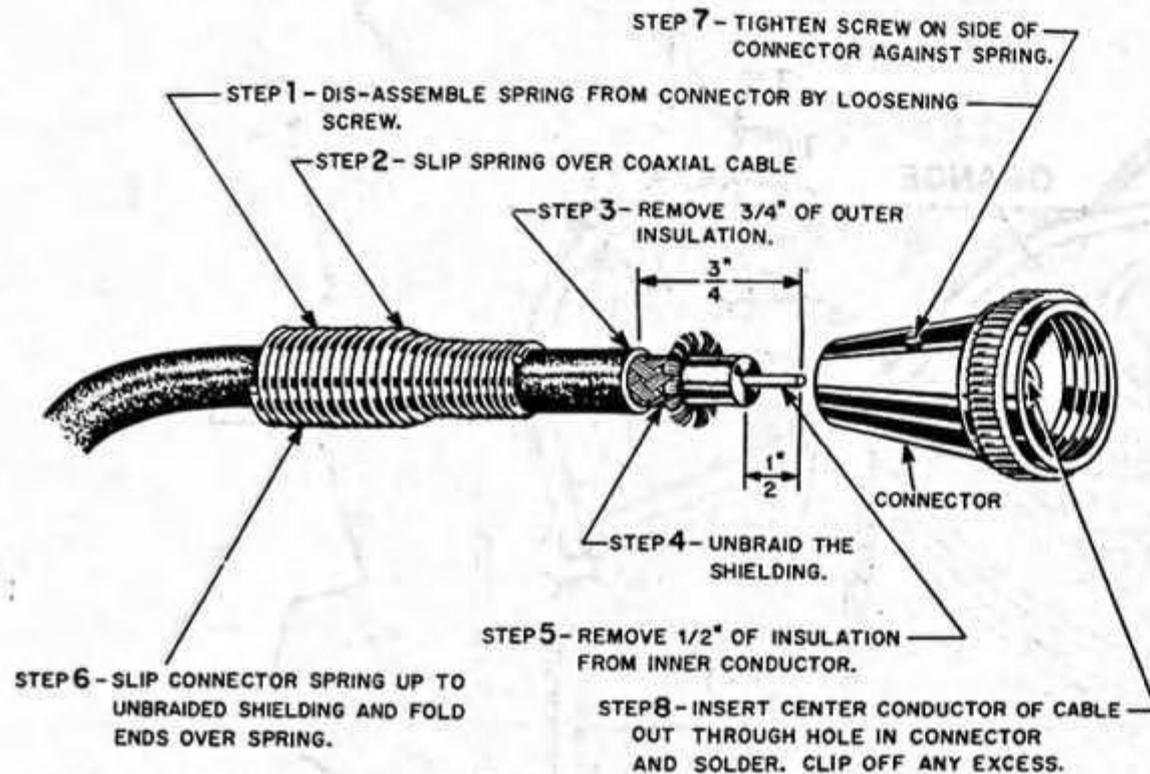

FIGURE 17. ATTACHING THE CONNECTOR
- The probe has been assembled for you. Attach the connector to the other end of the probe cable as follows: Prepare the free end of the cable and install the connector as shown in Figure 17.